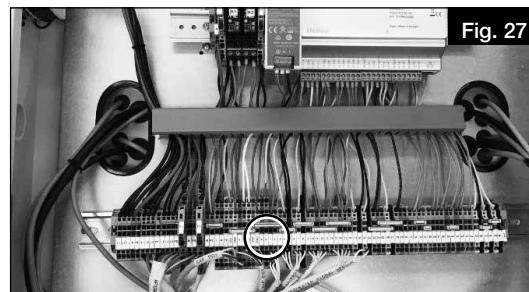

Fig. 27
3. Connect the controller cable to the marked terminals in the terminal box, see wiring diagram, section 2.3.6 (Fig. 27).